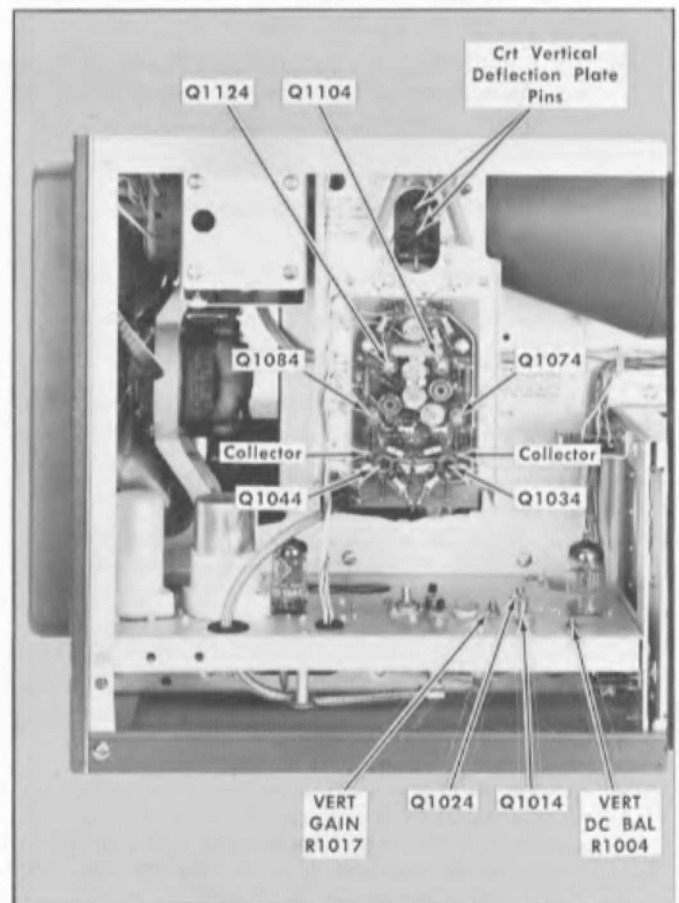

Fig. 5-4. Vertical Amplifier test point and adjustment locations for performing steps 9 and 10.
- a. Using a small screwdriver, short the crt vertical deflection plate pins together (see Fig. 5-4).
- d. Short the cases of Q1104 and Q1124 (see Fig. 5-4) together (not to ground) and note the deviation of the trace from electrical center. Deviation should not be more than 0.5 cm maximum. Remove the short.
- e. Short the cases of Q1074 and Q1084 together (see Fig. 5-4) and note the trace deviation from electrical center. Deviation should not be more than 0.5 cm maximum. Remove the short.
- f. Short the collector of Q1034 to the collector of Q1044 (see Fig. 5-4) and note the trace deviation from electrical center. Deviation should not be more than 0.5 cm maximum. Remove the short.
- i. Adjust the VERT DC BAL control R1044 (see Fig. 5-4) to position the trace to the center of the graticule.
- e. Adjust the VERT GAIN control R1017 (see Fig. 5-4) so the display vertical deflection is exactly 4 cm in amplitude.
- b. Insert the BNC T connector (item 13) between the AMPLITUDE CALIBRATOR connector and the coax cable.